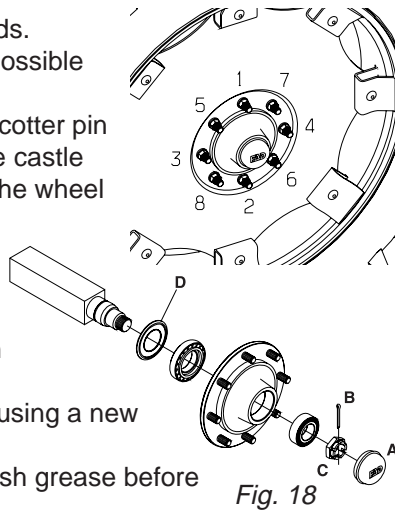

Fig. 18
4. (Fig.18) Remove hub cap **A** and cotter pin **B**. Turn the wheel and tighten the castle nut **C** until a slight resistance in the wheel rotation is felt.